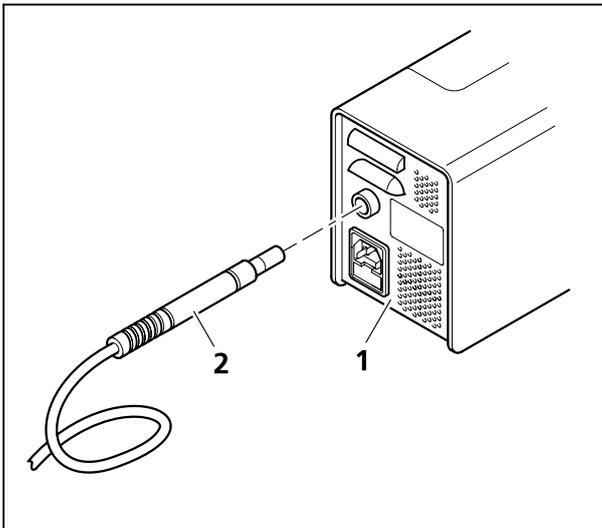

**Fig. 24** Connecting the optical fiber of the X-Cite illuminator to the PentaFluar S/X-Cite
Make sure the light source is switched off or the shutter slider (Fig. 24/5) pulled out.
- Undo clamp screw (Fig. 24/3) for optical fiber on the mounting port (Fig. 24/1) of the PentaFluar S/X-Cite vertical illuminator using the SW 1.5 mm offset Allen key.
- Push the optical fiber (Fig. 24/2) as far as it will go into the mounting port and clamp the clamp screw (Fig. 24/3) using the SW 1.5 mm key.
- Lever (Fig. 24/4) serves to open and close the iris diaphragm.
- The shutter and filter slider (Fig. 24/5) has three functional positions: